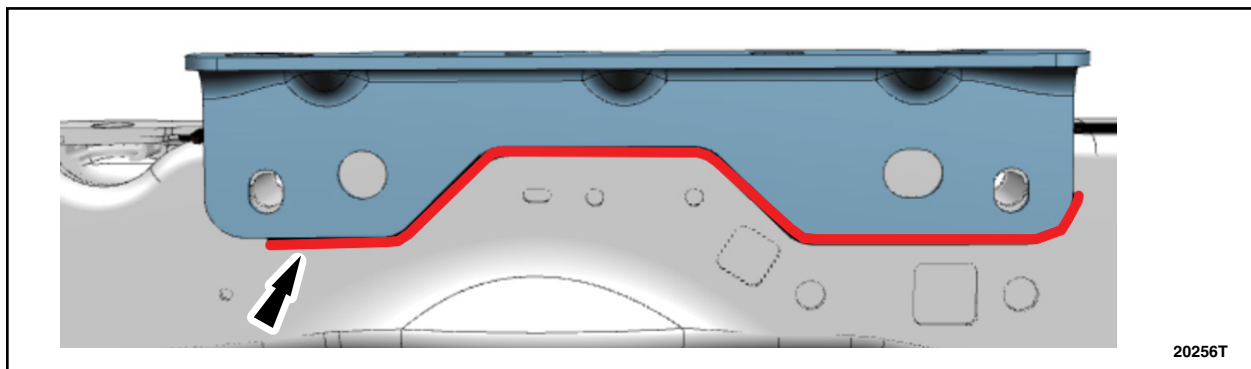

FIGURE 26
34. Solid weld the new bracket to the frame along the highlighted path shown. See Figure 26.